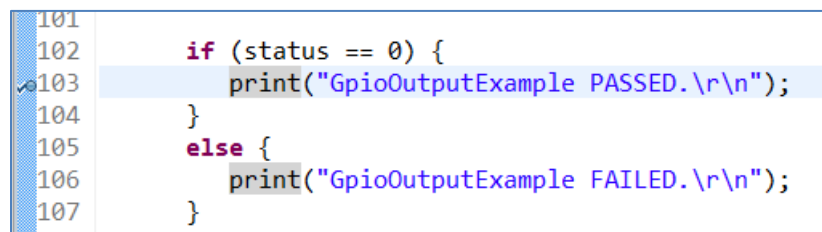

Figure 39: Add a Breakpoint
3. Double click in the blue bar to the left of line 103 to add a breakpoint on that line of source code (**FIGURE 39**).